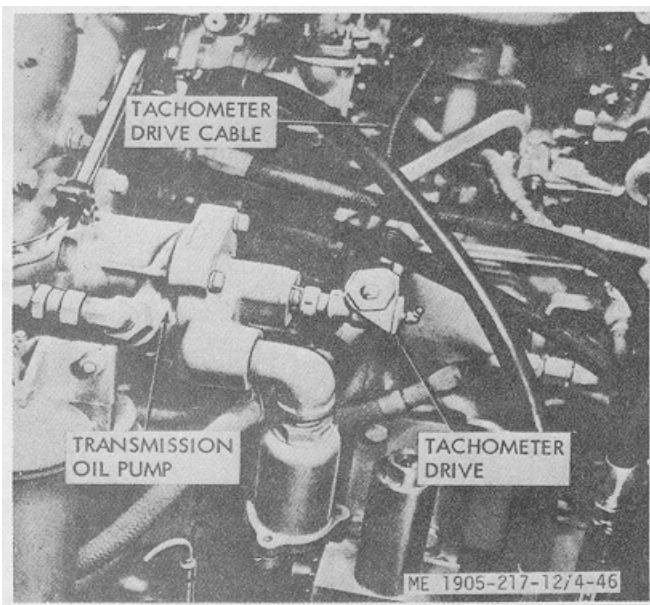

Figure 4-46. Tachometer drive.
- (1) Refer to paragraph 4-52 for removal of tachometers from the instrument panel.
- (2) Refer to figure 4-46 or 4-47 for removal of tachometer drive.